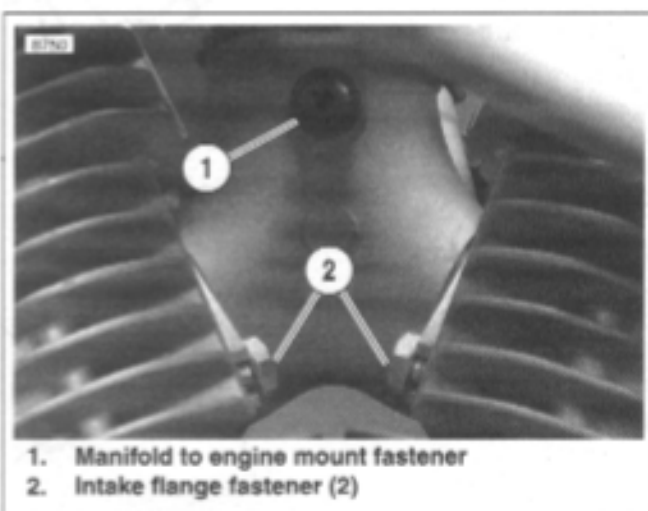

Figure 4-102. Intake Manifold (primary side)
- a. See Figure 4-102. On primary cover side, loosen but do not remove the two front and rear intake flange fasteners (2).
- b. Remove fastener (1) holding manifold to engine mount.
- a. See Figure 4-102. Slide the assembly toward installed position. Manifold should slide over fasteners (2) on primary cover side of engine.